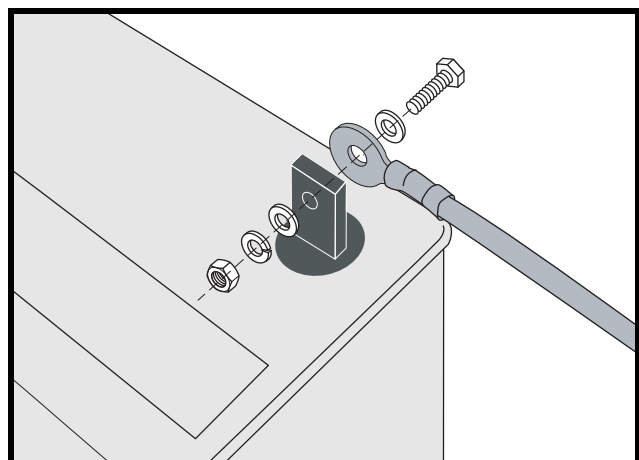

Figure 14. Battery Removal/Installation
4. Disconnect the battery cables from the battery terminals by sliding back the terminal boots and unscrewing the nut from the bolt. See figure 14.